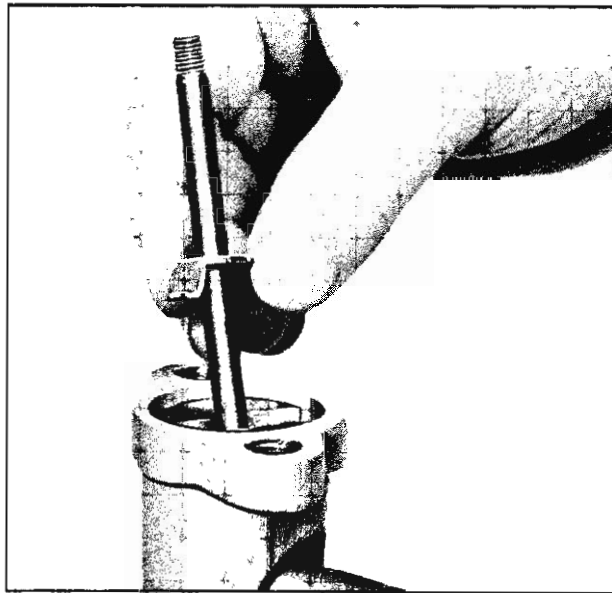

Fig. 82—Removing Plug-To-Sleeve Key
6. Remove the annulus spacer valve shaft washer and plug to sleeve key (see fig. 82).